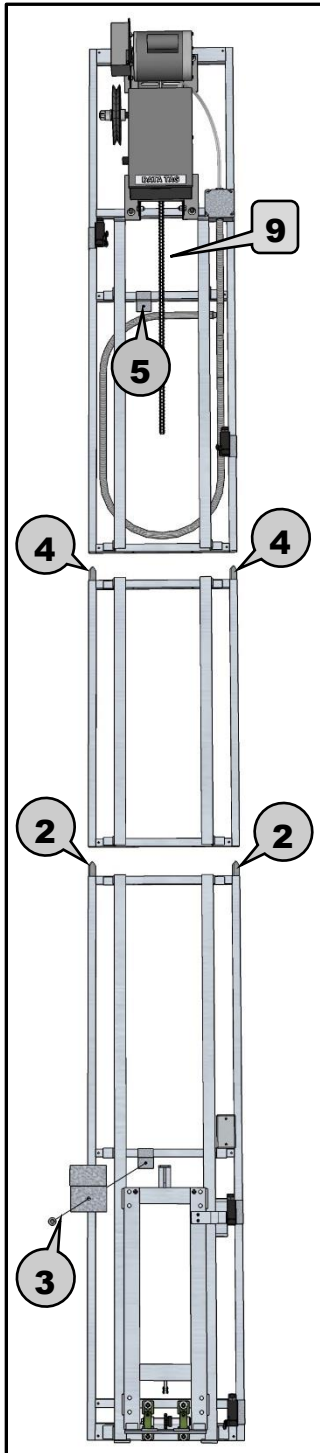

Figure 4
NOTE: For motor on top configuration, make sure the chain bundle is positioned down the track & rail in between track and not behind rail. (see Page 11, Figures 4 & 5, 9)
- 2** Drop two (2) stacking pins into the top of the two outer vertical tubes of the bottom section, and position section centered against the mounting wall. (see Figure 4)
- 3** Use provided frame clip and 2" screw to temporarily hold section in place against the wall. Make sure screws go into solid wood. (see Figure 4)
- 4** Drop two (2) stacking pins into the top of the two outer vertical tubes of the next section, and position section on top of previous section using the stacking pins to guide it into place centered against the mounting wall. (see Figure 4)
- 5** Use provided frame clip and 2" screw to temporarily hold section in place against the wall. Make sure screws go into solid wood. (see Figure 4)